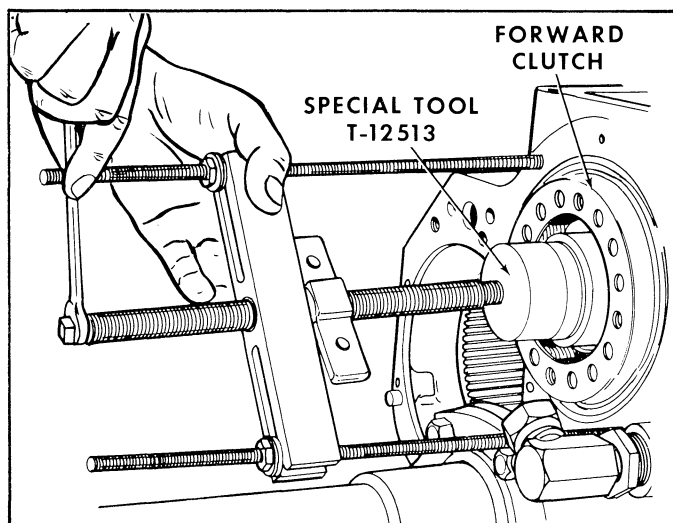

Figure 29. Installing the Forward Clutch with Special Tool T-12513.
(6) Use special tool T-12513 (fig. 29), and install the piston carrier, with attached parts, on the forward clutch shaft.